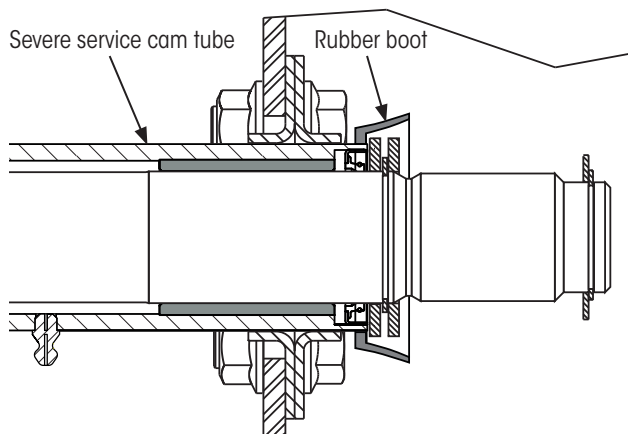

Figure 30: Severe service cam tube assembly
11. (**Severe service cam tube only**) Snap rubber cam tube boot (Figure 30) over and behind S-cam journal washer installed in Step 8.